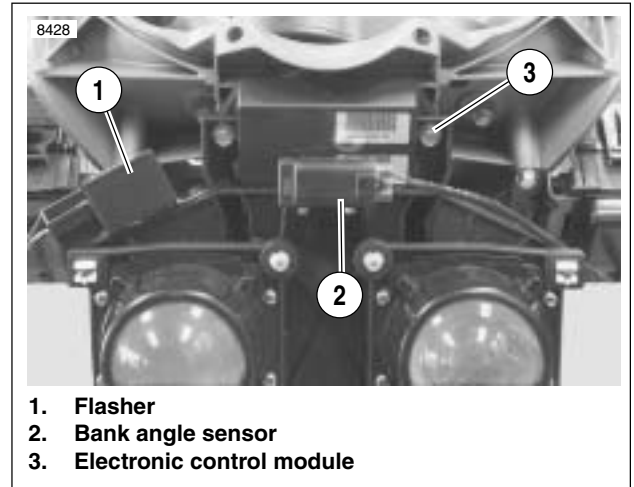

Figure 2-102. Headlight Support Bracket
4. See Figure 2-102. Disconnect flasher (1) and bank angle sensor (2). Remove electronic control module fasteners (3).
1. See Figure 2-102. Remove bank angle sensor (2).
2. Connect headlight bulb (8) connector (white) into wire-harness.
4. Install black rubber cover (4).
5. See Figure 2-102. Install bank angle sensor connector case (2). Tighten to 12-36 **in-lbs** (1-4 Nm).
6. Install flasher (1) and tighten to 30-40 **in-lbs** (3-5 Nm).
- See Figure 2-102. Install electric control module.
- Tighten electronic control module fasteners (3) to 72-96 **in-lbs** (8-11 Nm).
- See Figure 2-102. Connect flasher (1) and bank angle sensor (2).